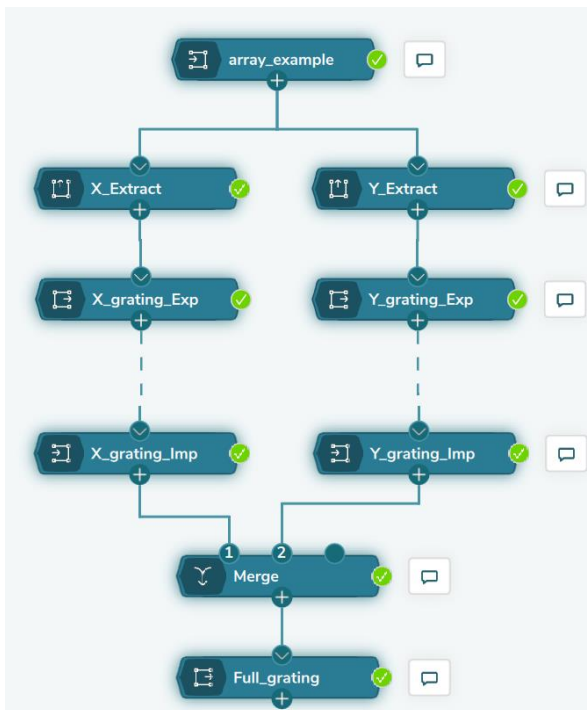

Figure 2. BEAMER flow to extract the two regions of interest, export them, re-imported and merge to export a single exposure file.
Figure 2 shows a flow that works to achieve the mentioned tool criteria. The layout is imported into BEAMER. Then, the *Extract* module is used to select either layer 1(0) or 2(0) as the layer of interest (to explore other options in the *Extract* module go to Appendix A). Afterwards, the *Export* module